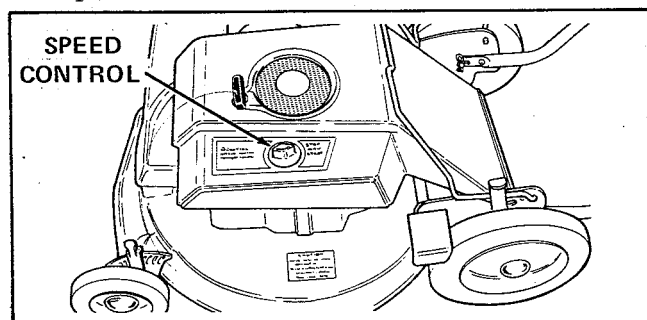

Figure 6. Speed Control to OFF
- On Manual Start Mowers turn the engine speed control knob to OFF (see figure 6). Disconnect spark plug wire after mowing to prevent unauthorized starting.